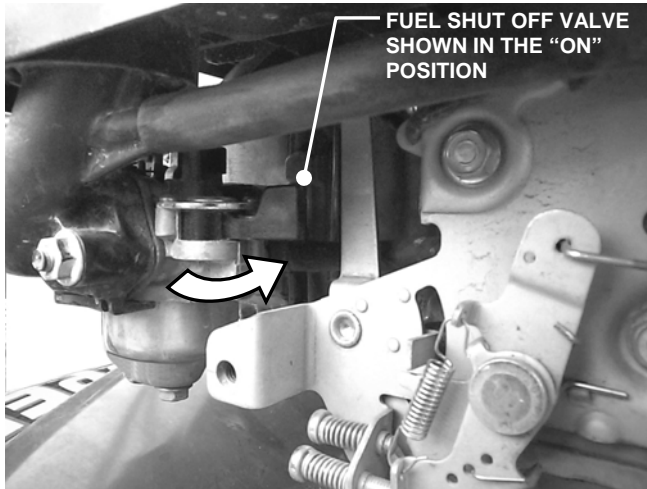

FIGURE 2.5
1. Move fuel shut off valve to the "ON" position. See Figure 2.5.